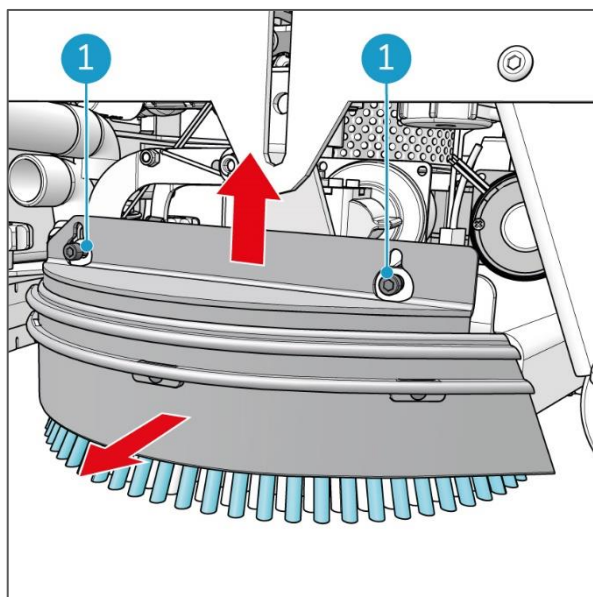
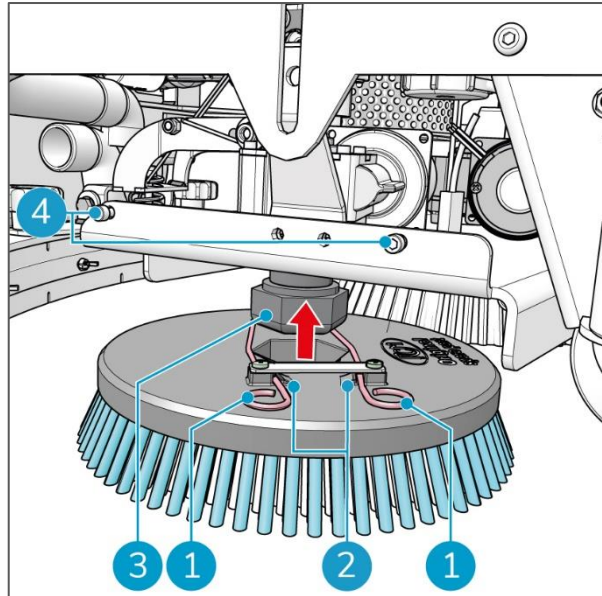

Figure 40
Figure 42
3. Pull it from its supporting bolts (Figure 40, pos 1) to remove it.
1. Make sure that the springs (Figure 42, pos 1) are locked into place behind the cams (Figure 42, pos 2).
2. Push the disc brush on the hexagonal nut of the drive shaft (Figure 42, pos 3) and wiggle it until you feel it is in place.
3. Release the springs to lock the clamp on the hexagonal nut (Figure 42, pos 3).
4. Align the holes of the grey brush cover (Figure 40) with the supporting bolts (Figure 42, pos 4).